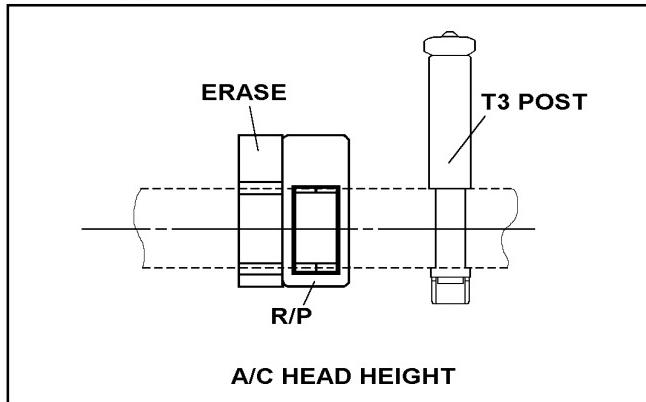

Figure 3-13-2
- Perform the Height and X-value adjustment under the screw (G) tightened completely.
- Be careful the tape damage at T3 Post, when adjust tilt of A/C Head. (refer to figure 3-13-2)